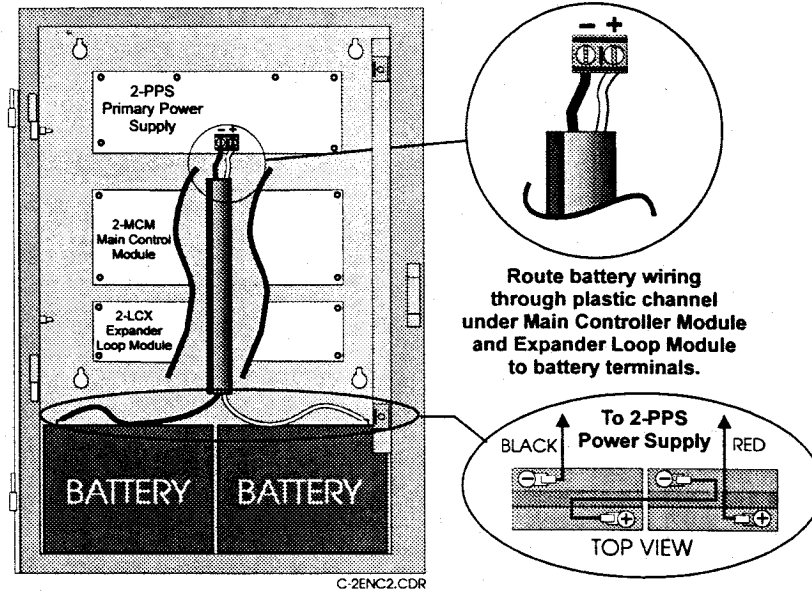
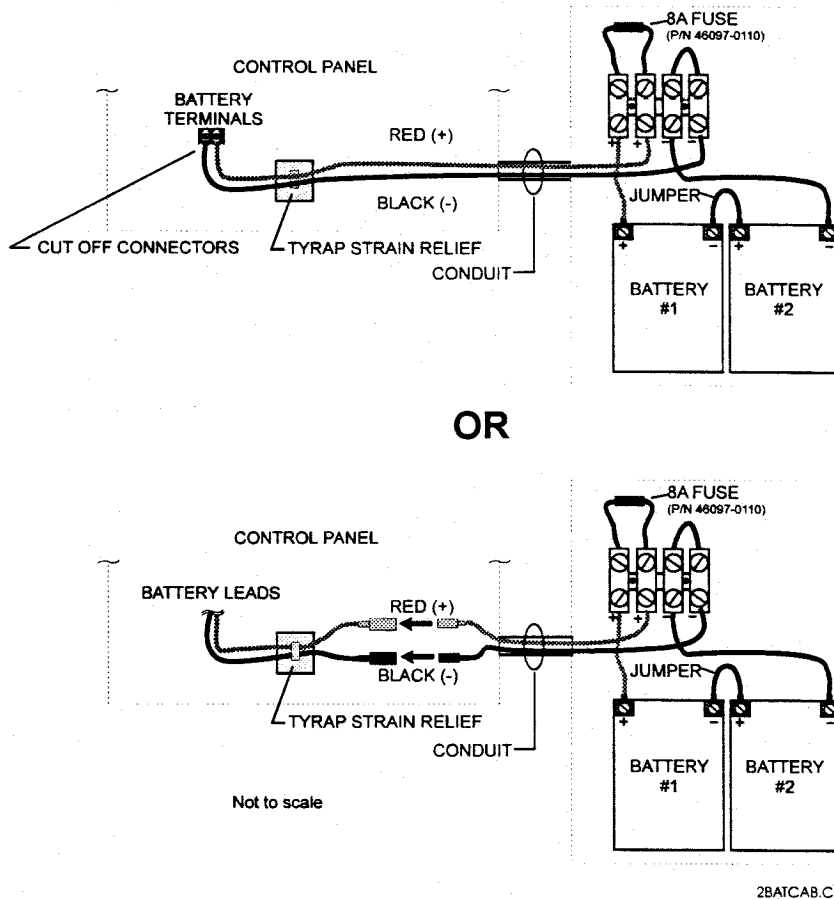

Figure 3.6 - Optional Battery Cable Wiring
Figure 3.7 - Battery Cabinet Wiring
3. Route the battery wiring from the power supply to the batteries. This wiring must be run in the protective channel beneath the Main Controller Module and the Expander Loop Module. Refer to Figure 3.6 or Figure 3.7.
The batteries in the external battery cabinet are connected to the battery terminals of the 2-PPS Power Supply in accordance with Figure 3.7.